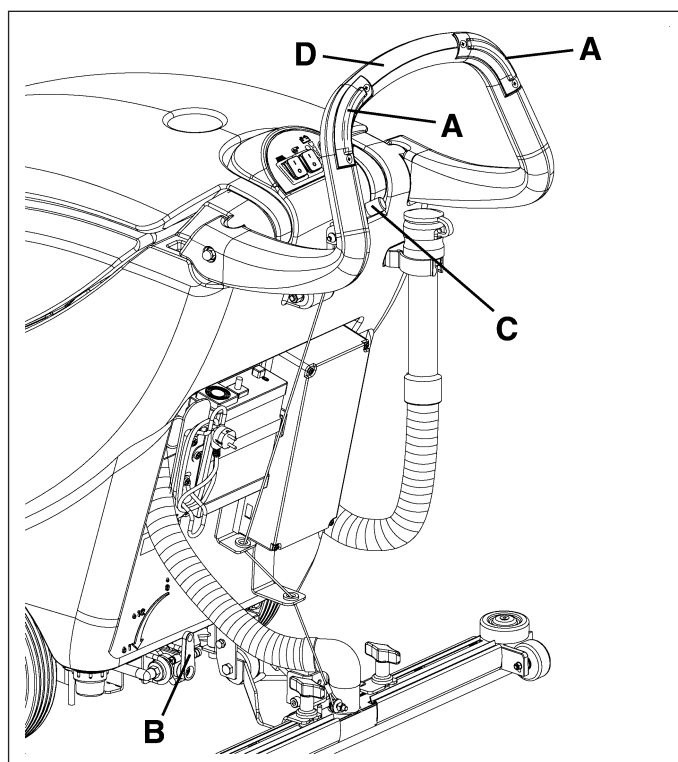

Figure 18
2. While keeping both hands on the handlebar (D, Fig. 18), move the machine and start scrubbing/drying the floor.
When the machine is stopped, stop the brush/pad by releasing the switches (A, Fig. 18).*
Before lifting the brush/pad, stop its rotation by releasing the switches (A, Fig. 18).
3. If necessary, adjust the solution flow sent to the brush/pad by turning the lever (B, Fig. 18).
2. Lift the squeegee by pushing the lever (C, Fig. 18) upwards.